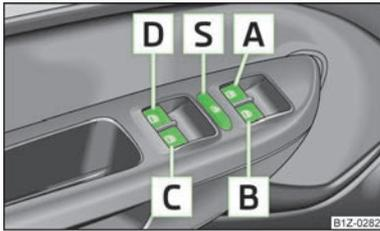

Fig. 18
- It is recommended to deactivate the electrically operated power windows in the rear doors (safety pushbutton  » Fig. 18 when children are being transported on the rear seats.
The buttons for the individual windows are located in the armrest of the driver's door » Fig. 18, front passenger seat and in the rear doors » page 40.
The buttons for power windows in the rear doors can be deactivated by pressing the safety pushbutton **S** » Fig. 18. The buttons for the power windows in rear doors are activated again by pressing the safety pushbutton **S** again.